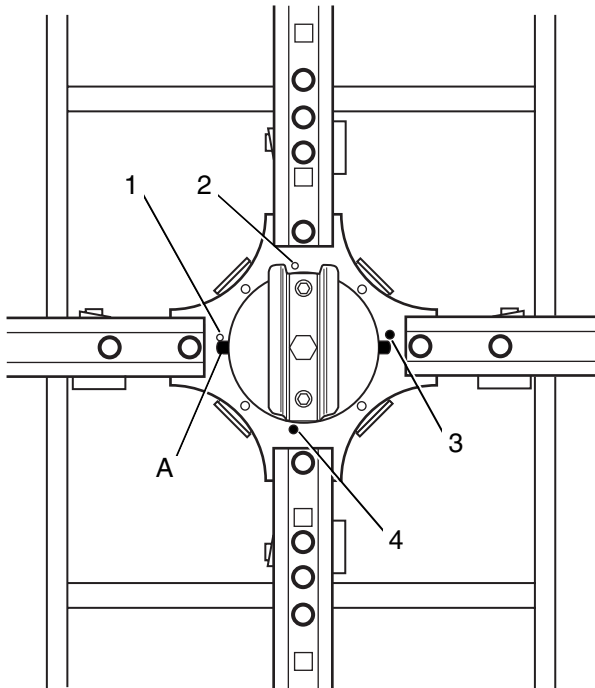

Fig. 18.1 Installation of the swivel plate (exit to the left/right)
ATTENTION If the swivel plate is installed with the exit to the left, the pins must be positioned as shown in Fig. 18.1, items 1 and 2.
If the swivel plate is installed with the exit to the left and right, the pins must be positioned as shown in Fig. 18.1, items 2 and 4. Remove pin (18.1/A).
If the swivel plate is installed with the exit to the left, right and upwards, the pins must be positioned as shown in Fig. 18.1, items 2 and 4. Remove pin (18.1/A).